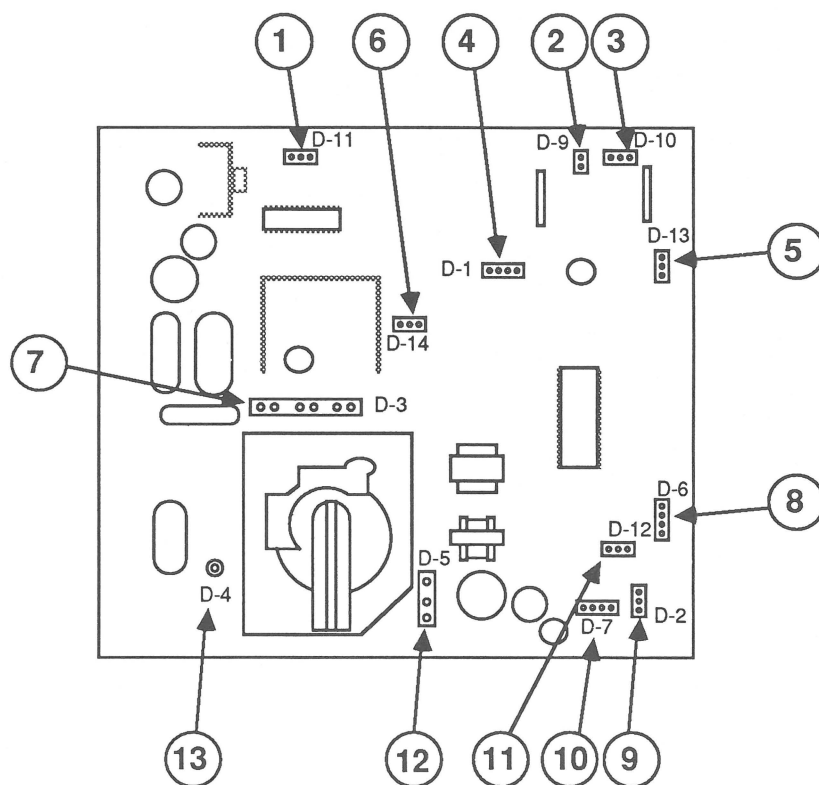

FIGURE 15
7. Pull main logic board "D" slightly out from the metal frame. Disconnect from board "D" the connectors listed in Table 4 and shown in Figure 15. **Leave the wires connected to the video color board assembly.**